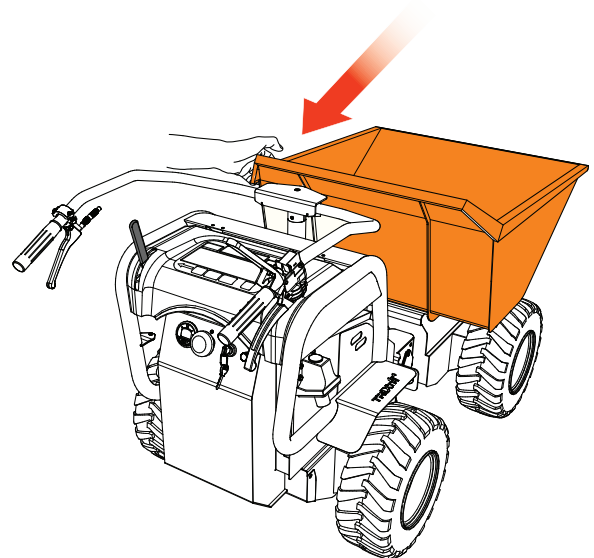

Figure 31. Tub Horizontal Position
2. To return the tub back to the horizontal position, grab hold of the tub (Figure 31) and push down.